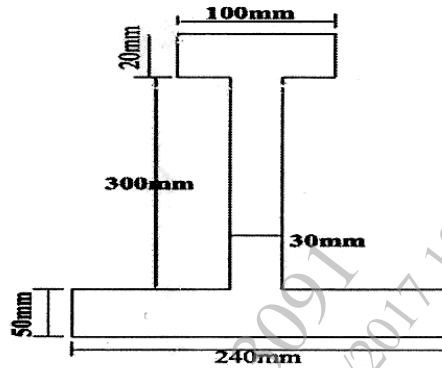

Fig. 4
- (b) The tension flange of cast iron I-Section beam is 240 mm wide & 50 mm deep. The compression flange is 100 mm wide & 20 mm deep whereas web is 300 mm \times 30 mm. Find the load per m run which can be carried over a 4 m span by a simply supported beam. If maximum permissible stresses is 24 MPa. (Fig.4) [6]